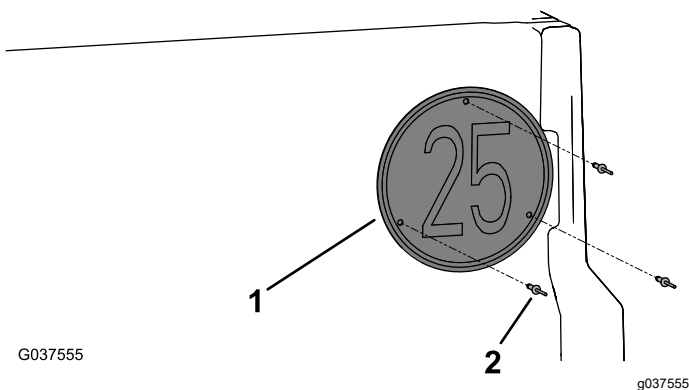

Figure 18
4. Install the speed plate to the tailgate using 3 pop rivets (3/16 x 15/16 inch) as shown in Figure 18.